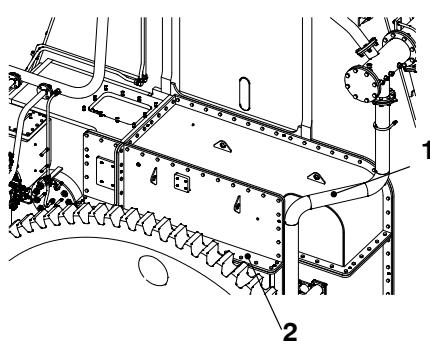

Fig. 1
- 1) Remove the covers (1, Fig.1) and (2).